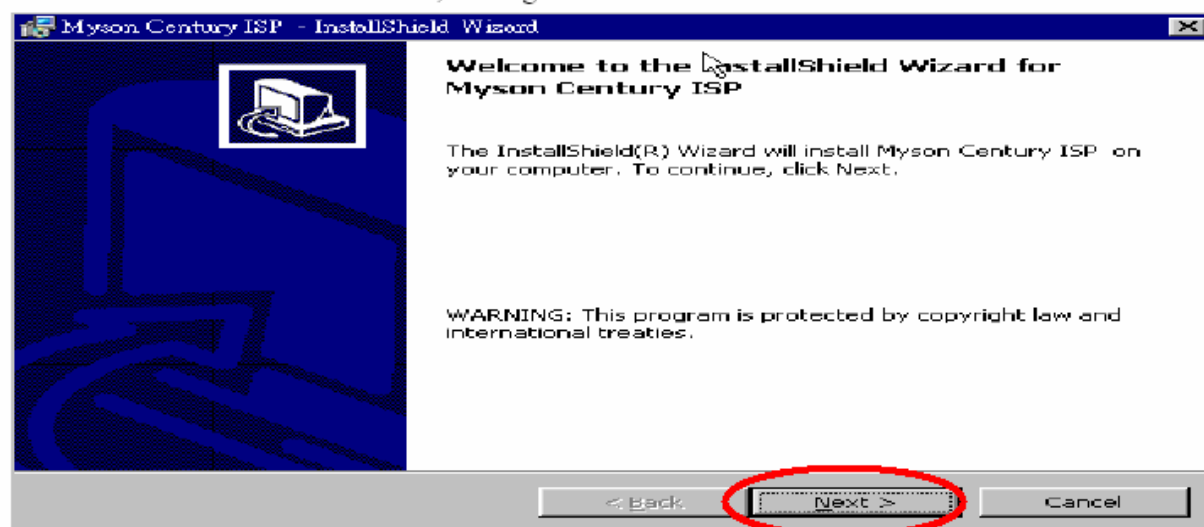

Fig 1.3
- 1.3 Press “Next “ button to continue., see Fig 1.3